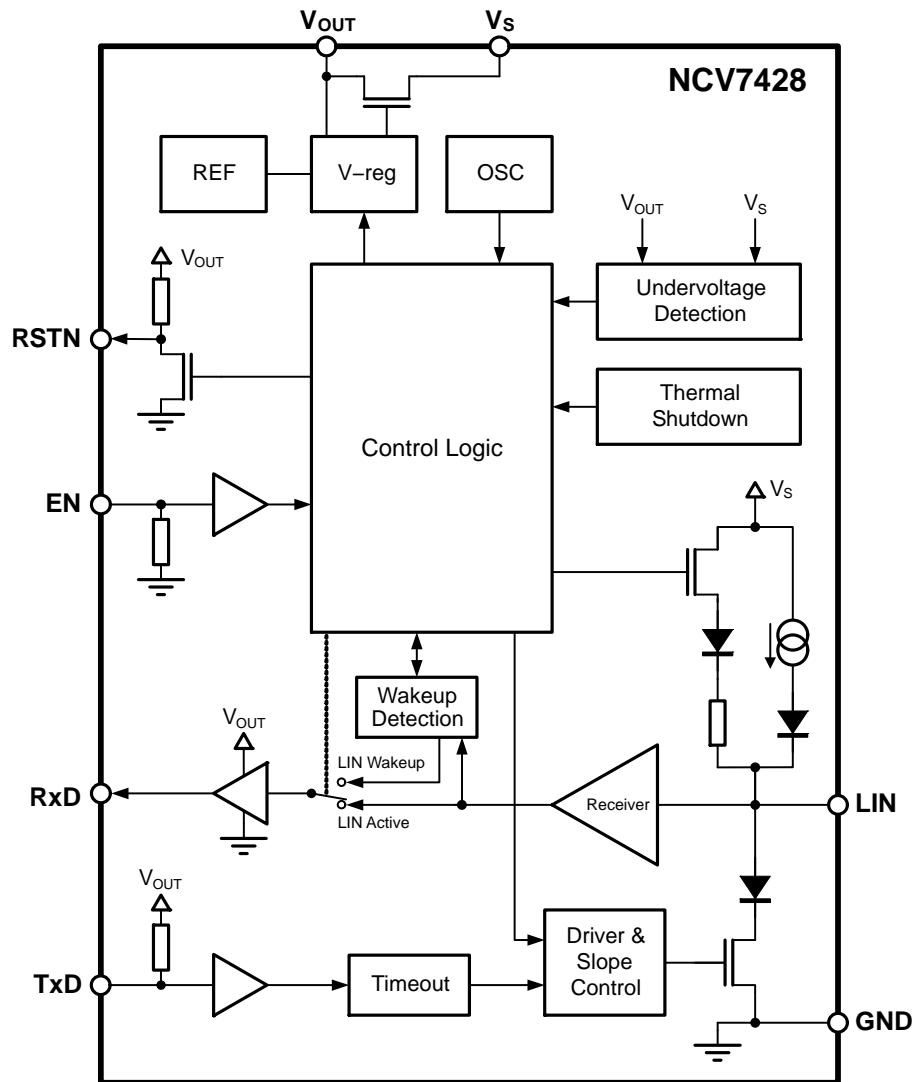

Figure 1. Block Diagram
10. The voltage drop in Normal mode between LIN and  $V_S$  pin is the sum of the diode drop and the drop at serial pull-up resistor. The drop at the switch is negligible. See Figure 1.